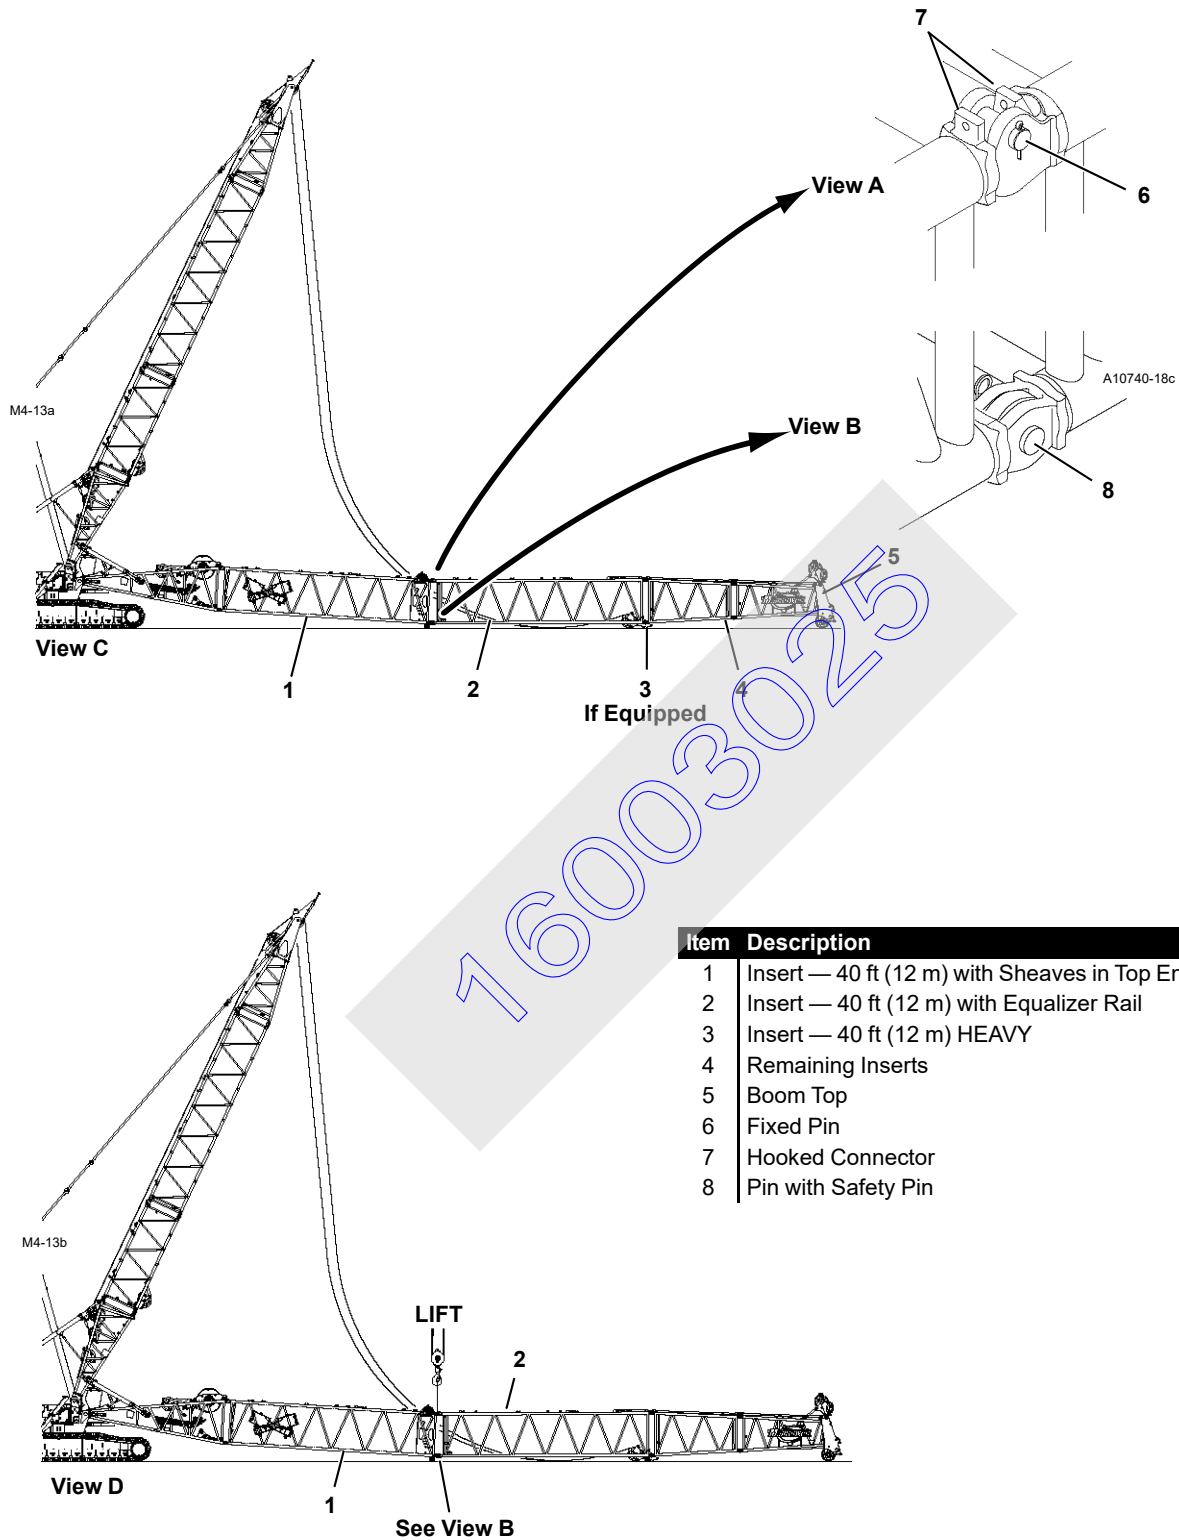

FIGURE 4-16
**Assemble Remaining Boom Sections**See Figure 4-16
1. Lift insert (2, View C) — insert with equalizer rails — into position in front of insert (1).